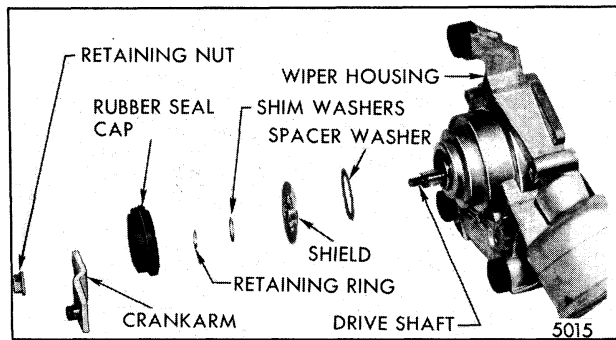

Fig. 2-90-Crank Arm Components
1. Clamp crank arm in vise and remove crank arm retaining nut, crank arm, rubber seal cap, retaining ring, shim washers, shield and spacer washer in the order indicated (Fig. 2-90).